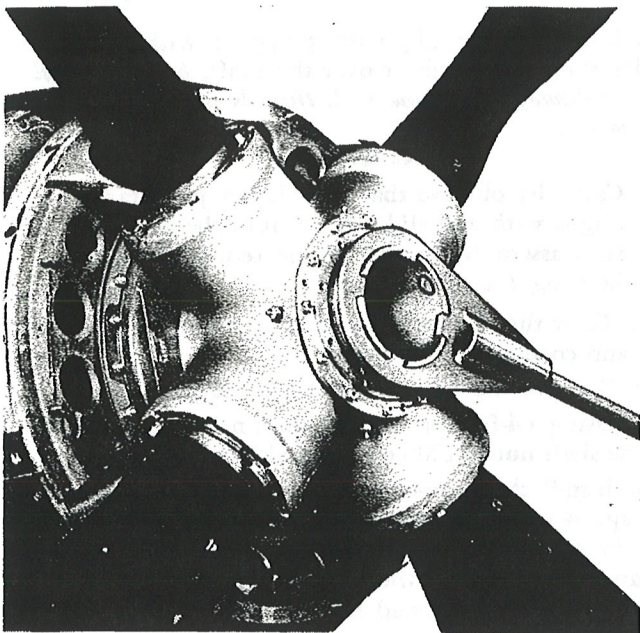

Figure 22—Tightening Shaft Nut
- o. Using a 4-foot bar and the shaft nut wrench, tighten the shaft nut to 1000 foot-pounds. (See figure 22.)